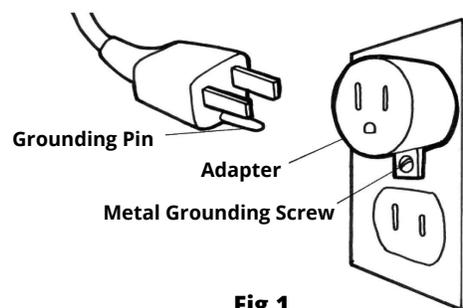

Fig.1
25. The power cord supplied with the fireplace has 3 prongs: 2 flat blades (live and neutral) and one round pin (ground). If a 3-slot receptacle is not available, an adapter (sold separately) MUST be used. The adapter MUST be properly grounded to the outlet box (see the diagram below, Fig.1) Adapter not included.